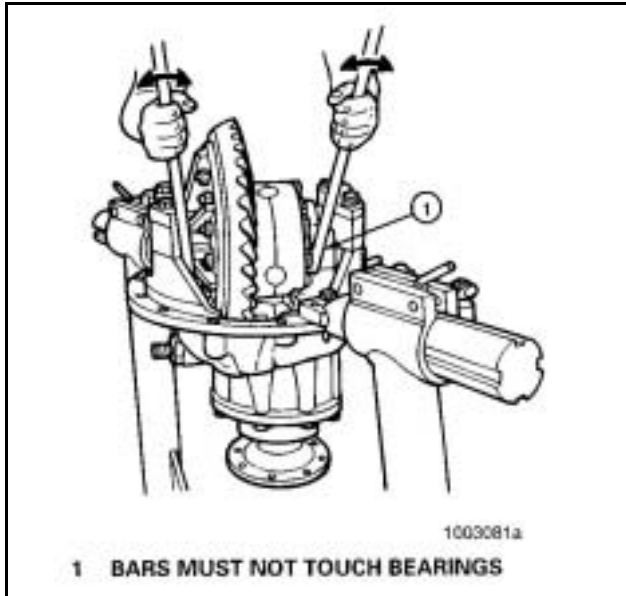

Figure 103
- b. Use two pry bars between the differential case or ring gear and the carrier at the locations other than described in step **a**. The pry bars **must not** touch the differential bearings. **Figure 103.**